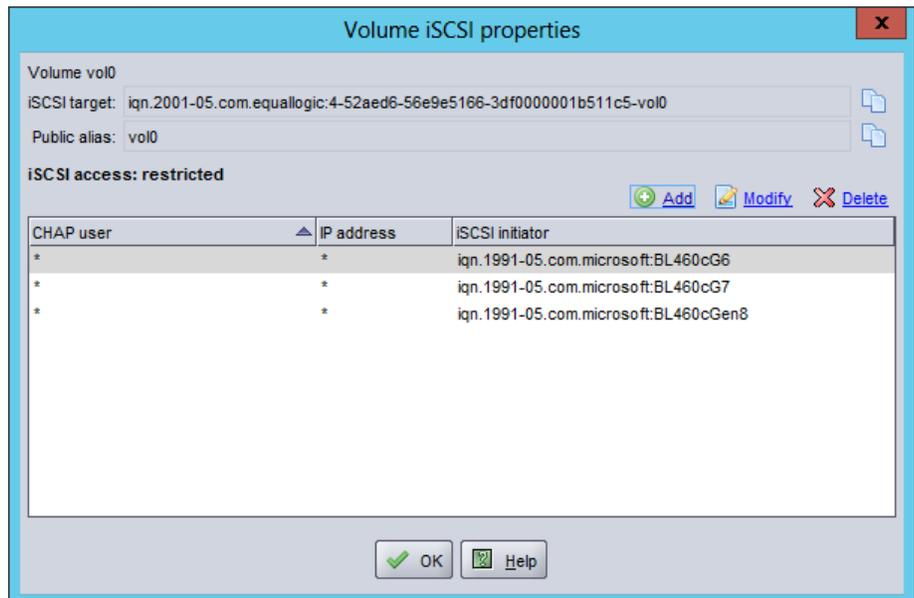

Figure 27: iSCSI settings.
1. Right-click the volume, and select View iSCSI Settings. (See Figure 27.)